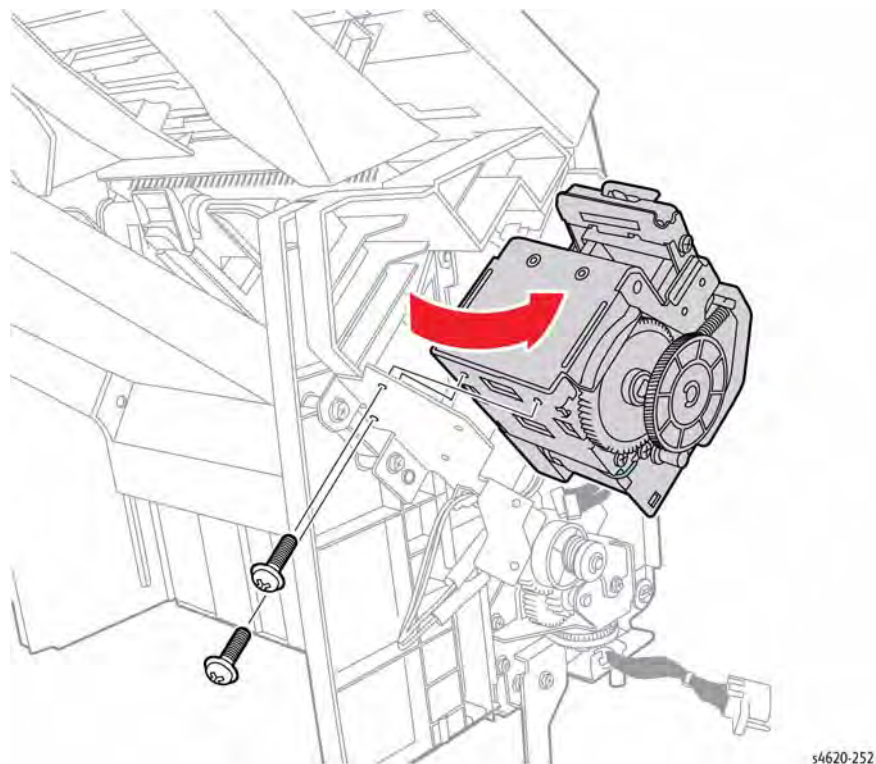

Figure 1 Remove the Stapler
3. Remove 3 screws (1 metal, 2 plastic) that secure the stapler bracket and stapler to the Finisher., Figure 1.